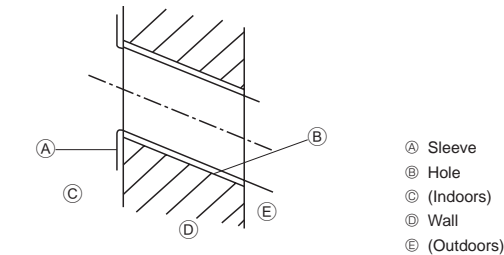

Fig. 3-4
- ① Mount board
- ② Indoor unit
- ③ Bottom left rear pipe hole (ø75)
- ④ Bottom right rear pipe hole (ø75)
- ⑤ Knockout hole for left rear hole (P10/15/20/25/32: 105x215, P40/50: 105x300)
- ⑥ Bolt hole (4-ø9 hole)
- ⑦ Tapping hole (6-ø4.3 hole)
- ⑧ Hole centre
- ⑨ Align the scale with the line.
- ⑩ Insert scale.
3.2.2. Drilling the piping hole (Fig. 3-4)